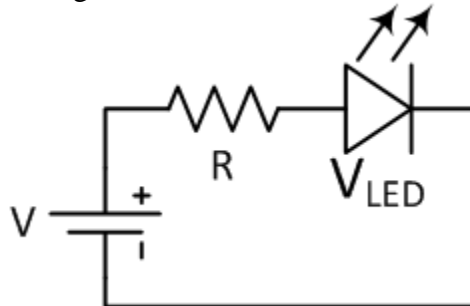

Figure 3: Circuit schematic of a battery powering an LED. A resistor is connected in the circuit to limit the current through the LED.
An LED is a two terminal device. An LED is a polarized device. One of the terminals is called Anode (A) and the other terminal is called Cathode (K). An LED will emit light when its Anode is connected to the positive terminal of a battery and its Cathode is connected to the negative terminal of the battery. LEDs can only carry a finite amount of current. Therefore, it is common practice to place a resistor in between the battery and the LED as shown in Figure 3 to limit the current flowing through the LED.